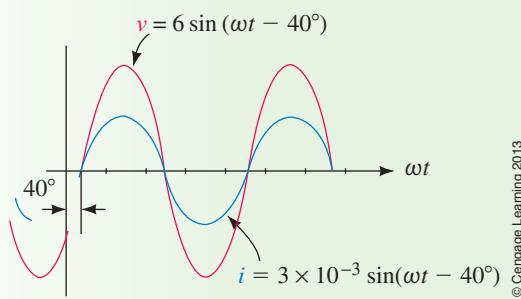

FIGURE 18-7
- Figure 18-7 shows the sinusoidal waveforms for v and i .